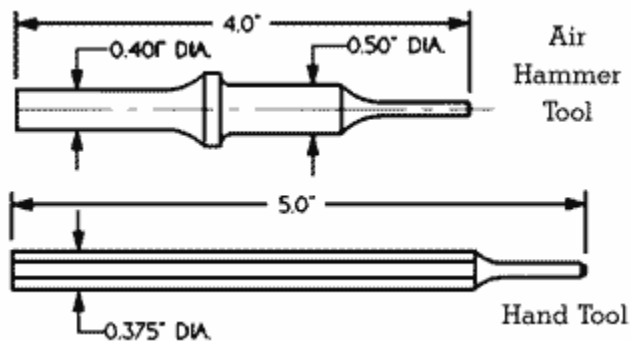

FIGURE 1
- CR-TEC Engineering hand installation tool for the specific TEC-Plug size. For automated assembly the air hammer tool is available. See Figure 1 and Table A.